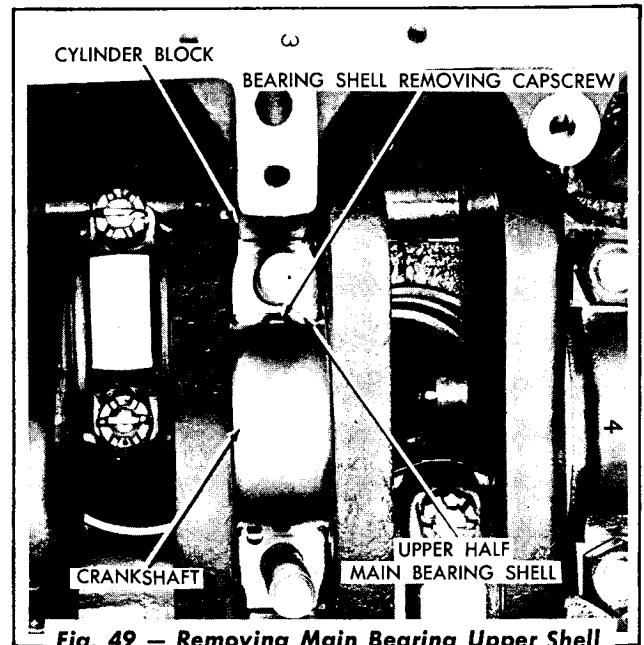

Fig. 49 - Removing Main Bearing Upper Shell
- a. Insert a $\frac{1}{4}$ " x 1" capscrew, with the head ground down to a thickness of approximately $\frac{3}{32}$ " into the crankshaft main bearing oil hole as shown in Fig. 49. Then rotate the crankshaft in the direction that will turn the head of the bolt against the end of the bearing shell that has no locking tang. Continue rotating the crankshaft until the shell has been pushed out.